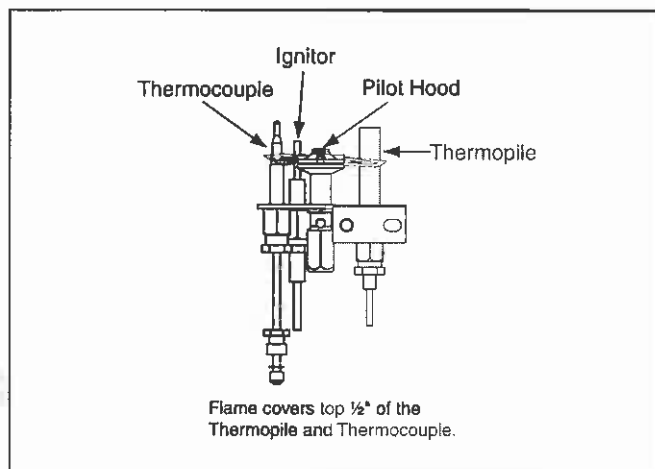
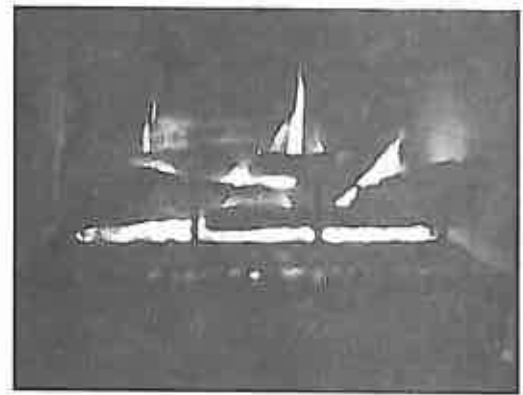

Figure 33 - Standing Pilot
Figure 32 - Flame Patterns
- a. Check the flame pattern of the burner periodically, making sure the flames are steady, not lifting or floating. The flame color should be blue with yellow tips. See Figure 32. The thermopile and thermocouple tips should be covered with flame. See Figure 33.
- b. If the vent configuration is installed incorrectly, the vent may cause the flames inside the appliance to lift or "ghost" - a dangerous situation. Inspect the flames after installation to ensure proper performance. See Figure 32. If the vent configuration is correct, yet the flames are lifting or ghosting, shut off gas to the appliance and contact the dealer.